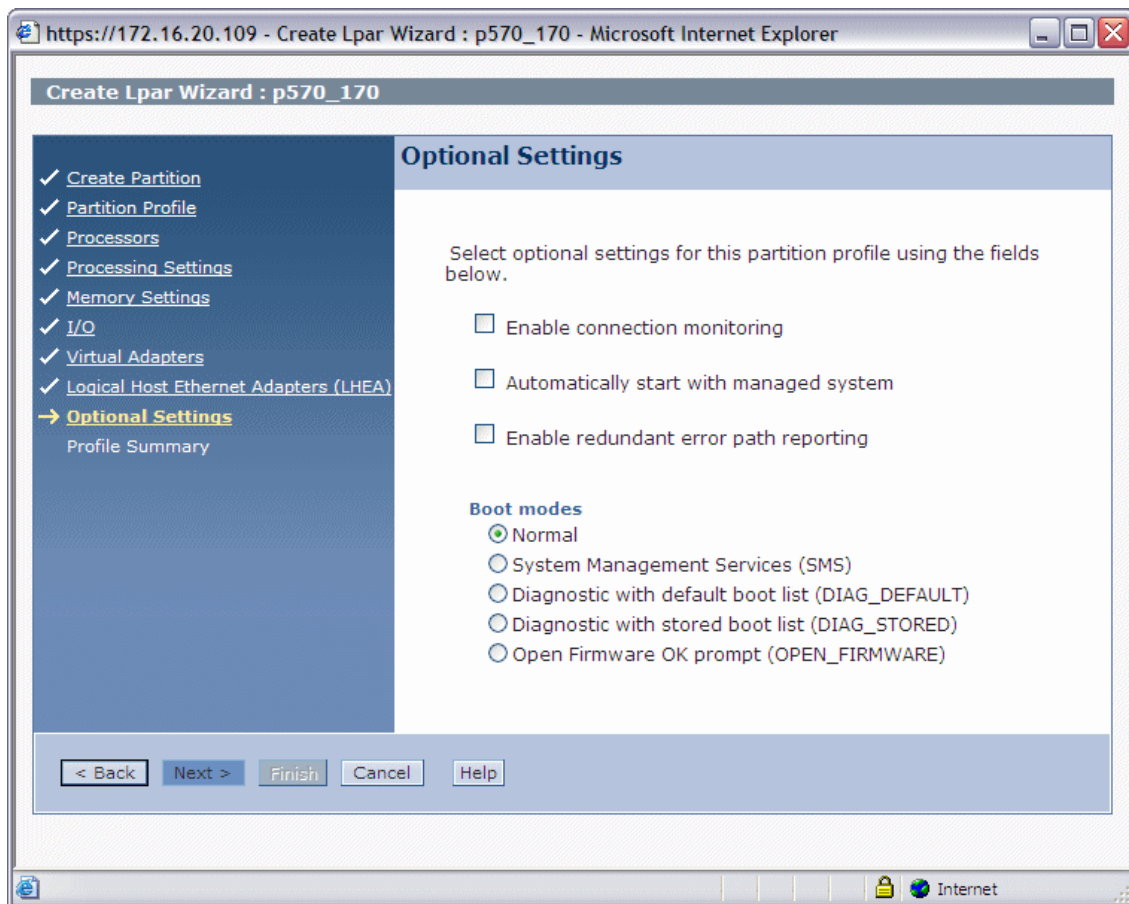

Figure 13-10 The Optional Settings menu
12. In the **Optional Settings** dialog of the Create LPAR Wizard (Figure 13-10), keep the default selection of **Normal** for boot modes and click **Next** to continue.